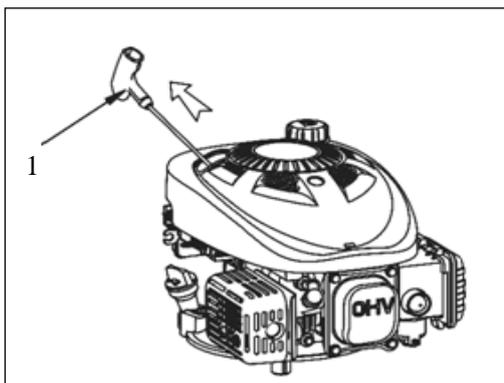

Fig.3
**CAUTION:** Do not allow the starter grip (1) to snap back against the engine. Return it gently to prevent damage to the starter. (See Fig. 3)